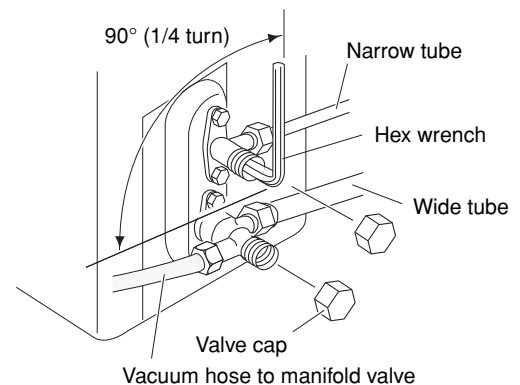

Fig. 28
- (5) With the vacuum pump still running, close the “Lo” knob of the manifold valve. Then stop the vacuum pump.
- (6) With the accessory hex wrench, turn the valve stem on the narrow tube service valve counter-clockwise by 90 degrees (1/4 turn) for 10 seconds, and then turn the stem clockwise to close it again. (Fig. 28)